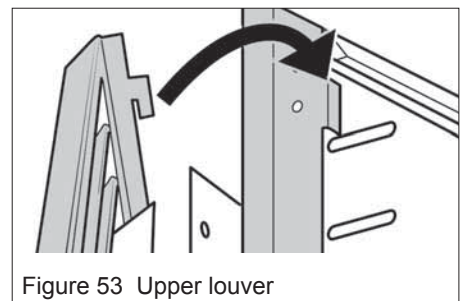

Figure 53 Upper louver
4. Attach the upper louver by hooking over the tabs near the top of the firebox sides. See figure 53.